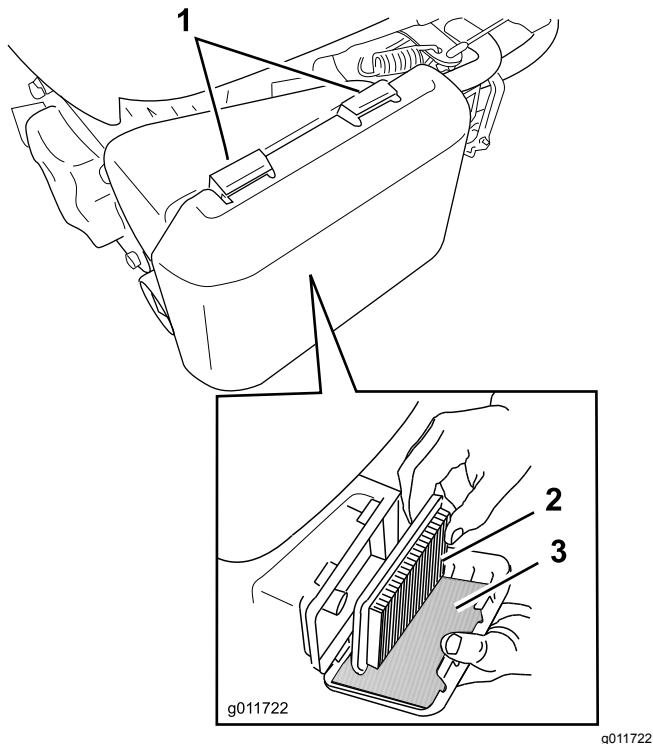

Figure 39
1. Press down on the latch tabs on top of the air-filter cover (Figure 39).
3. Remove the paper air filter and the foam pre-filter (Figure 39).